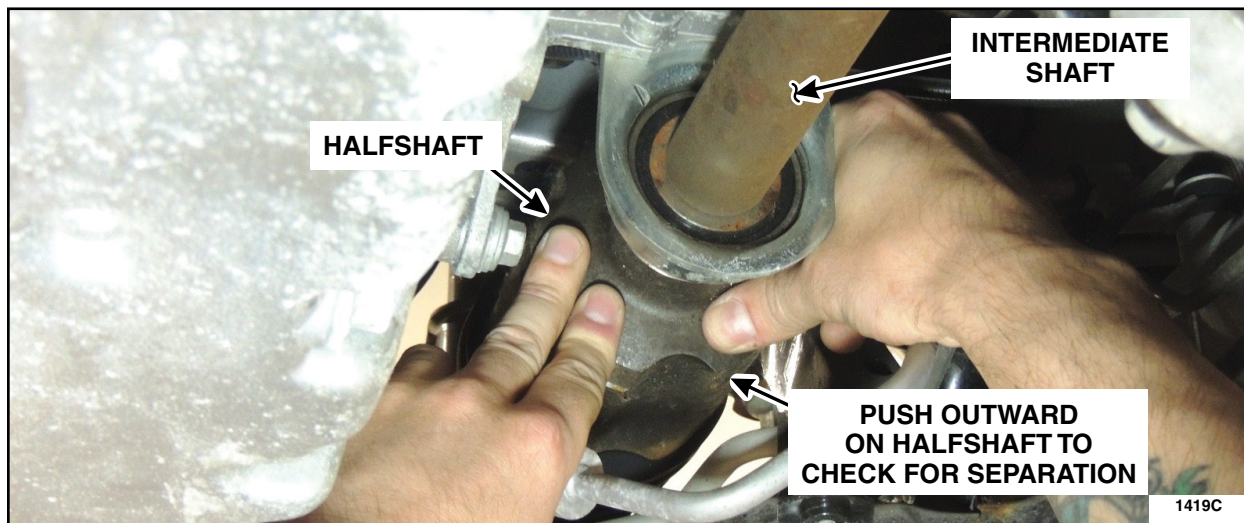

FIGURE 2
- b. From under the vehicle, using your hands, apply outward pressure to the halfshaft at the intermediate shaft connection to check that the halfshaft is fully engaged onto the intermediate shaft. See Figure 2.